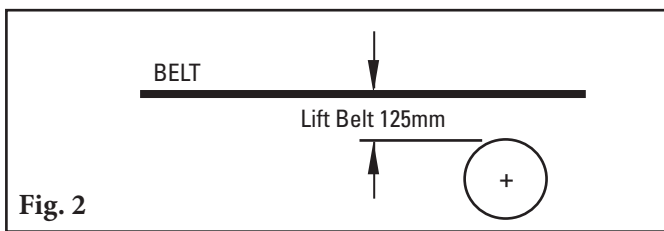

Fig. 2
- 2. Lift the belt** approximately 125mm where the trainer will be installed. Remove existing idler (if applicable) (Fig. 2). **NOTE:** If the conveyor has disc idlers, replace one idler with a standard idler before and after the location where the trainer will be installed.